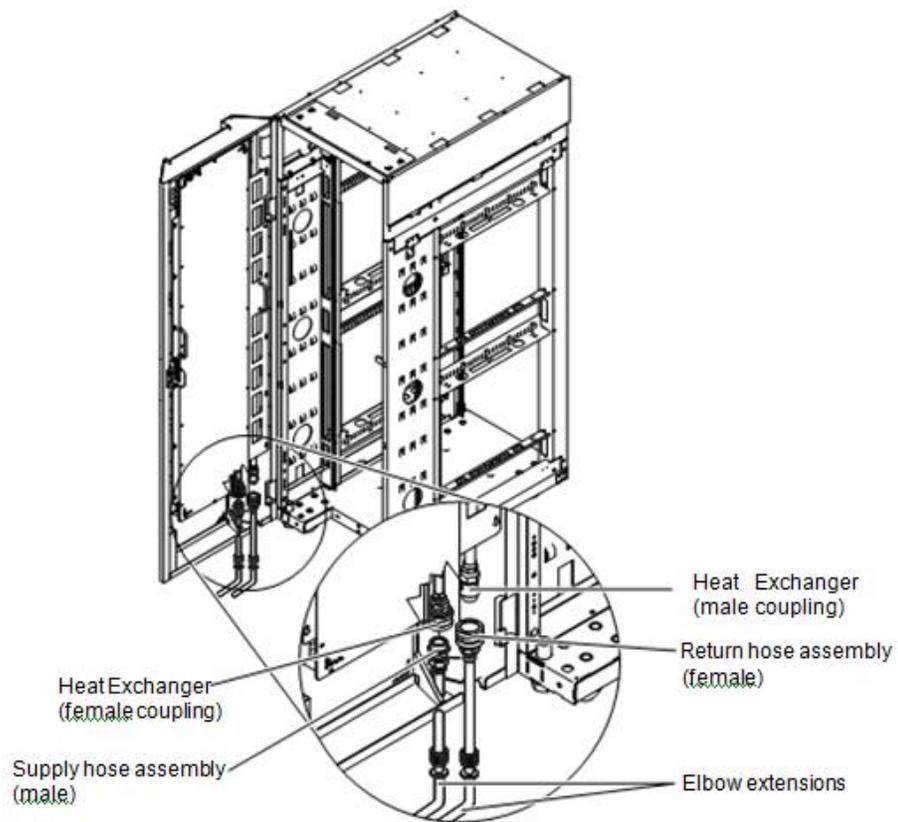

Figure 12. Non-raised floor hose requirements
2. When routing hoses between the RDHx and the floor using a bottom-fed RDHx, right angle hose kits are typically required. Straight hose kits cannot make the sharp bend to exit between the floor and the RDHx without kinking the hoses. Using external right angle hose kits allows the hoses to be routed along the floor, make a 90° turn upwards and connect to the supply/return couplings. The gap between the bottom of the RDHx and the floor surface must be at least 54mm (2.125") or internal right angle hoses must be used. This is shown in Figure 12.